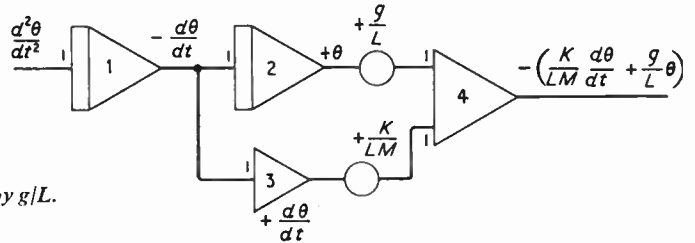

Fig. 15 (Right). Using pots to multiply $d\theta/dt$ by k/LM and θ by g/L . Adding these two terms gives $k/LM (d\theta/dt) + g/L (\theta)$
We can multiply $d\theta/dt$ by K/LM and θ by g/L as shown in Fig. 15. If we add these two terms in a summer, we obtain the right-hand side of equation (7), as shown in Fig. 15. This sum must be $d^2\theta/dt^2$ according to equation (7). (Note the sign reversal every time an amplifier is used.)